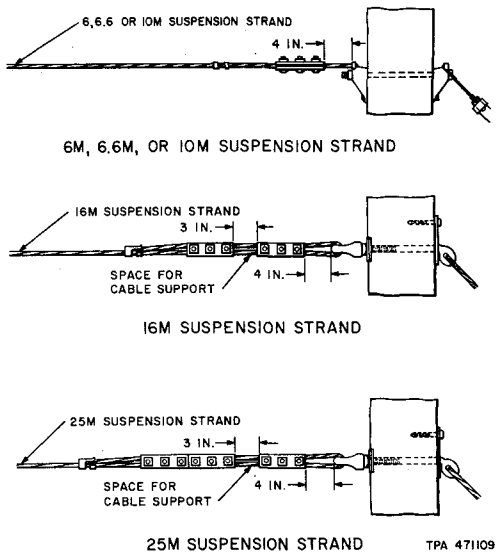

Fig. 20—Arrangement of B Guy Clamps
5.03 Figure 20 illustrates the arrangement of the guy clamps when terminating strand.